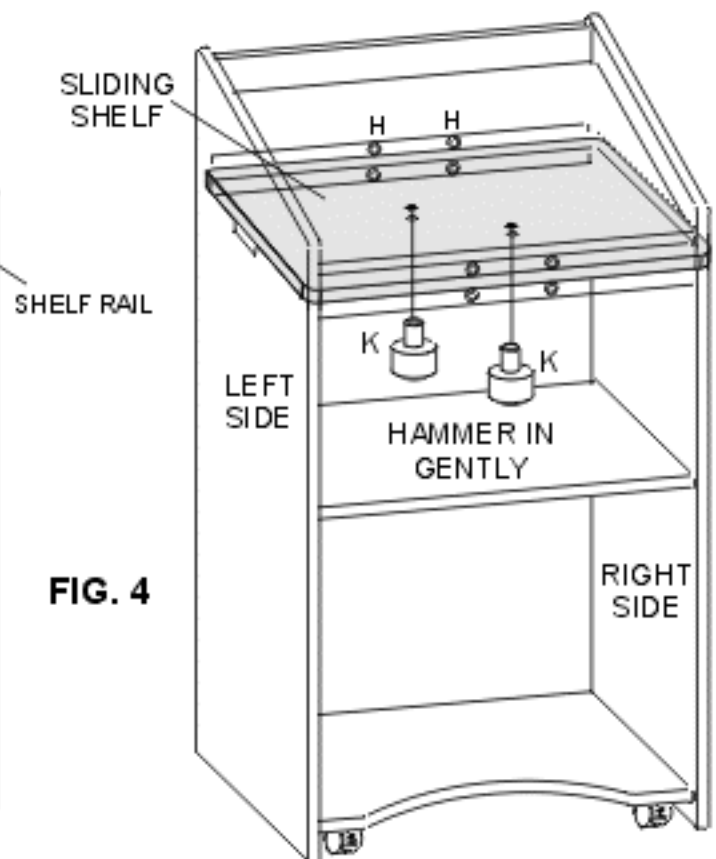

FIG. 4
With SLIDING SHELF installed completely between LEFT and RIGHT SIDES, install PLASTIC BUMPERS (2) into holes underneath. FIG. 4. Hammer in gently until seated against bottom of SHELF.